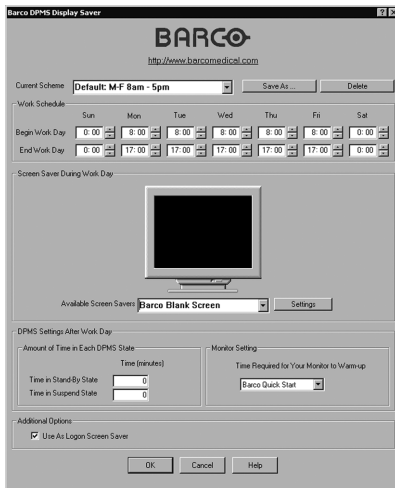

Figure 25: Barco DPMS Settings Control Panel
2. Click on the **“Settings”** button. The **“Barco DPMS Screen Saver Control Panel”** will open (see figure 25 on page 71).